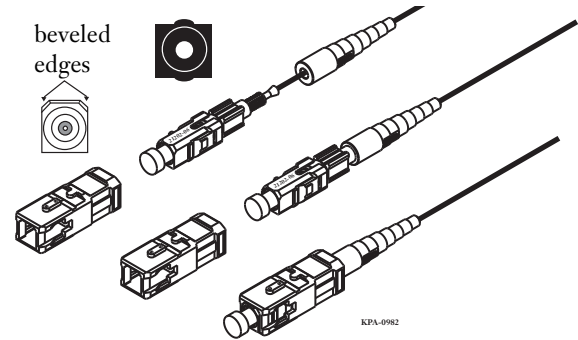

Figure 48 — SC Connector Completed Assembly
- Step 1:** Ensure the clear ferrule dust cap is installed (Figure 48).